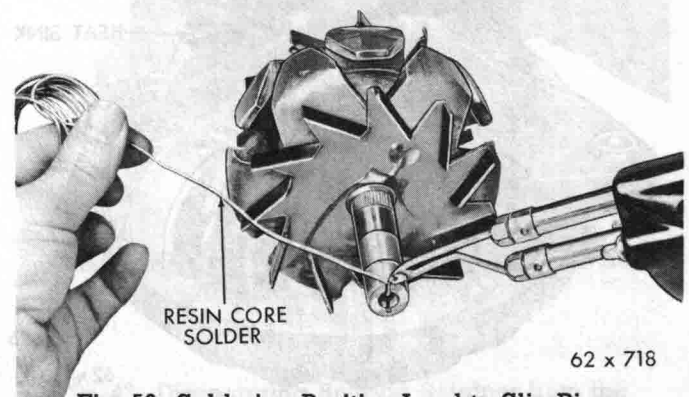

Fig. 53—Soldering Positive Lead to Slip Ring
(8) Press the slip ring assembly down carefully until the slip ring insulation bottoms against the rotor shaft.
(9) Resolder the rotor coil positive lead in the groove of the positive slip ring (Fig. 53). Use resin core solder.